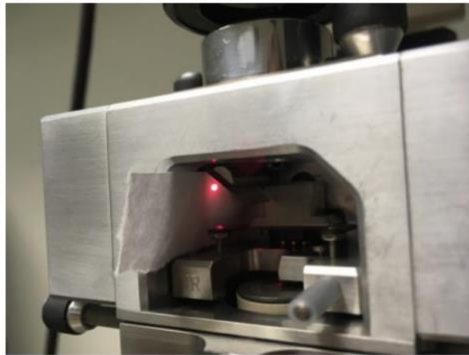

Figure 5) Photo of laser alignment using method 2
- As shown in Figure 5, align laser such that the laser is on the tip using the two laser dials (one on right of head to move laser in x direction and one on the back to move in y direction)
- Slide a piece of paper in front of the detector such that when the laser bounces off the cantilever, it will be visible on the sheet of paper – as shown in Figure 5.